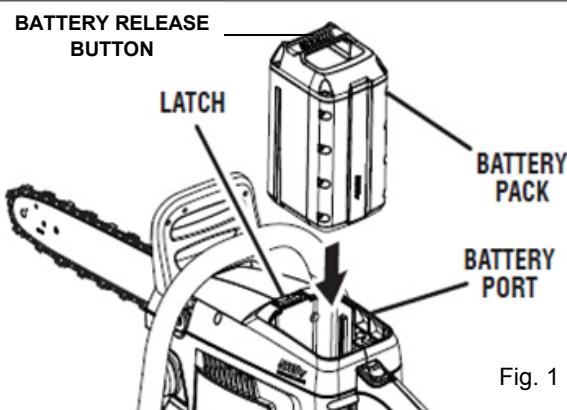

Fig. 1
■ Align grooves on battery pack with raised ribs in the tool's battery port and place the battery pack in the tool. (Fig 1)